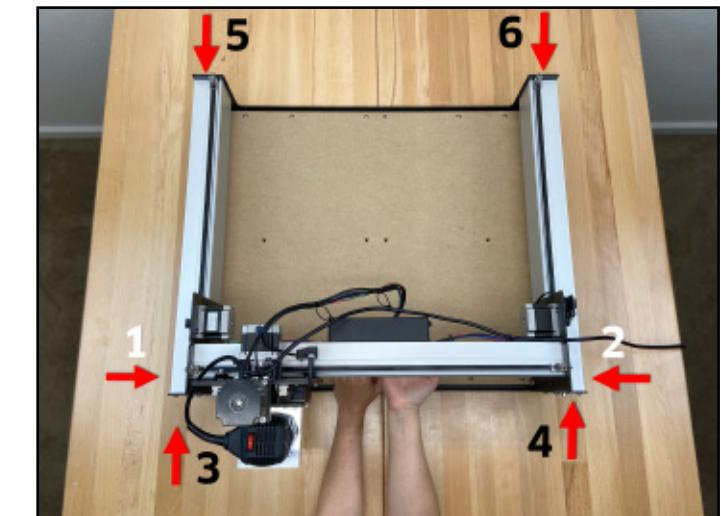

Figure 9-4
- MAINTAIN FORWARD PRESSURE** and use the 4mm hex key to fully tighten the sixteen (16) M6×12mm button head cap screw sets 1-4, in numbered order, shown in Figure 9-4.
- Move the X-rail to the rear and **MAINTAIN REARWARD PRESSURE** and use the 4mm hex key to fully tighten the eight (8) M6×12mm button head cap screw sets 5-6, in numbered order, shown in Figure 9-4.
- Use the 3mm hex key to fully tighten the twelve (12) M5×25mm button head cap screws of the MDF baseplate.